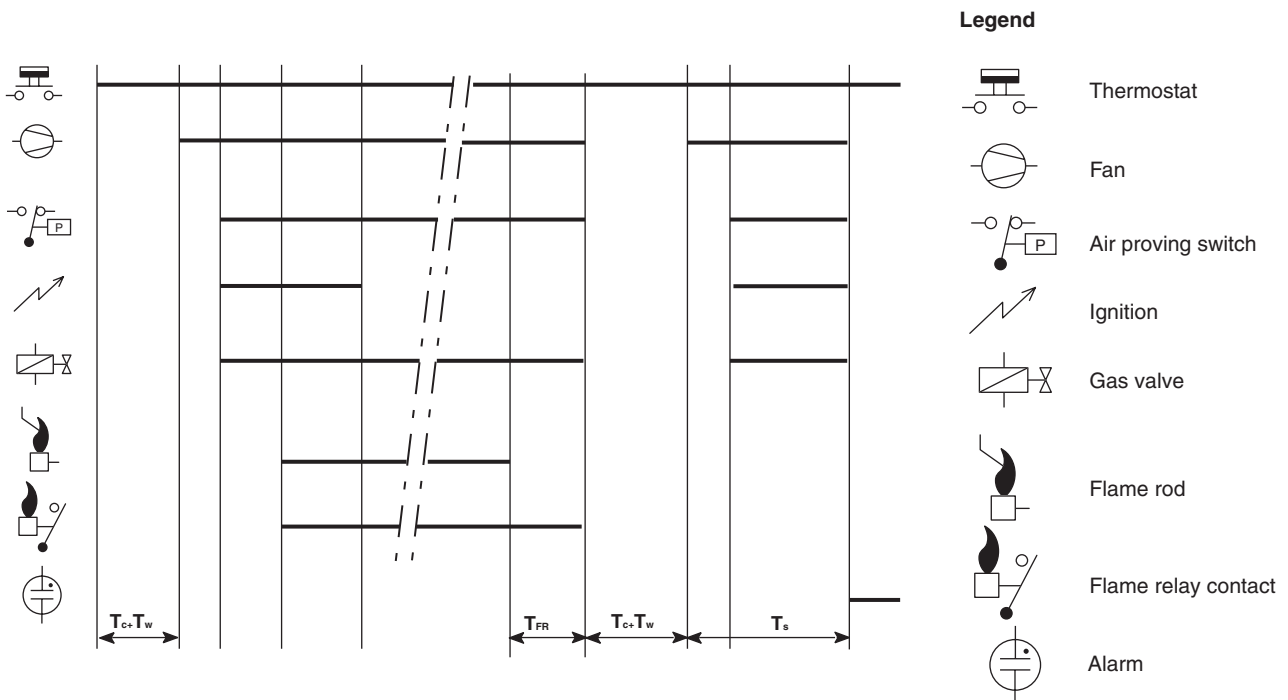

Fig. 22. Timing diagram S4565DD, TD "1000" series
**Suffix DD and TD (see fig. 22.)**